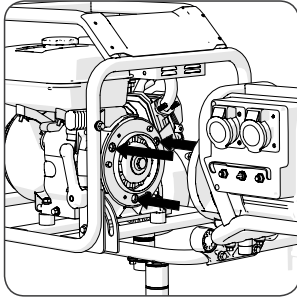
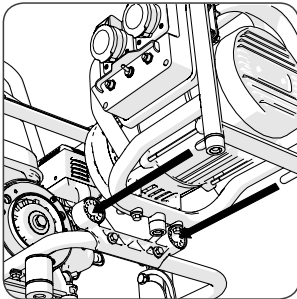

Fig. 1a (showing locating pins)
Fig. 1b (showing rear stabiliser pins)
- Hold the accessory by its external frame and offer it up to the engine. Visually align the 3 locating pins (**Fig.1a**) and 2 rear stabilising pins (**Fig.1b**). Enlist competent help if necessary.